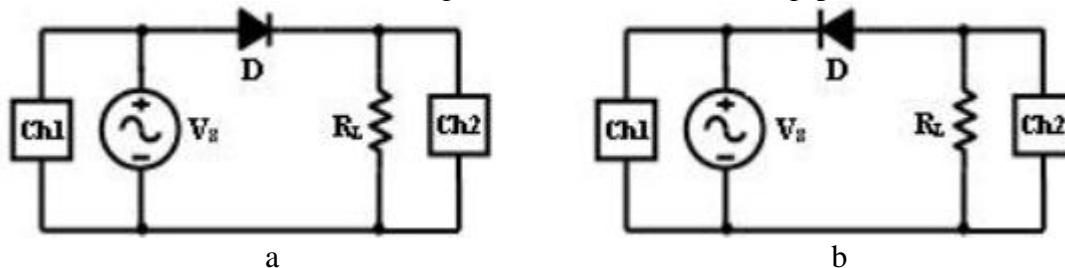

Figure 2.5: Unfiltered half wave rectifie
- 1- Construct the circuit shown in Figure 2.5 where:  $R = 1k\Omega$ ,  $V_{p-p} = 10V$ , 100 Hz.